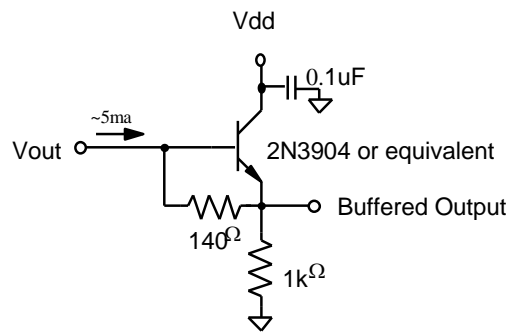

Figure 13: Example Output Structure Load Diagram
1. An output load sink must be applied to Vout to provide a constant current source and activate the output amplifier - see Figure 13.